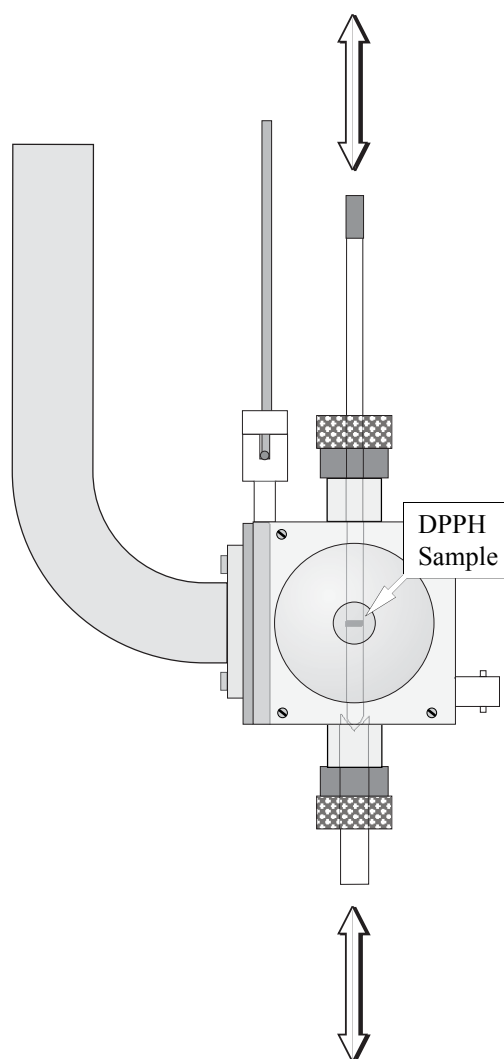

Figure 17-11 Fine adjustment of the DPPH sample height in the cavity.
15. **Optimize the DPPH sample position.** Move the sample tube up and down until the maximum signal intensity is attained. (See Figure 17-11.) Avoid moving the sample from side to side. Perhaps the best technique is to loosen the collet nuts for the pedestal and sample tube and move the sample too low. Then use the pedestal to slowly push the sample up. Sometimes the process of moving the sample tube in the cavity can cause the AFC to lose lock. Re-tune the frequency if this happens. If the signal is clipped, decrease the **Receiver Gain**. Rotate the sample tube until the maximum signal intensity is attained. When you have maximized the signal intensity, secure the sample tube by tightening the collet nuts. Check the matching if needed. You may need to re-center the signal by adjusting the **Center Field** in the **Absc.1: Field** tab.